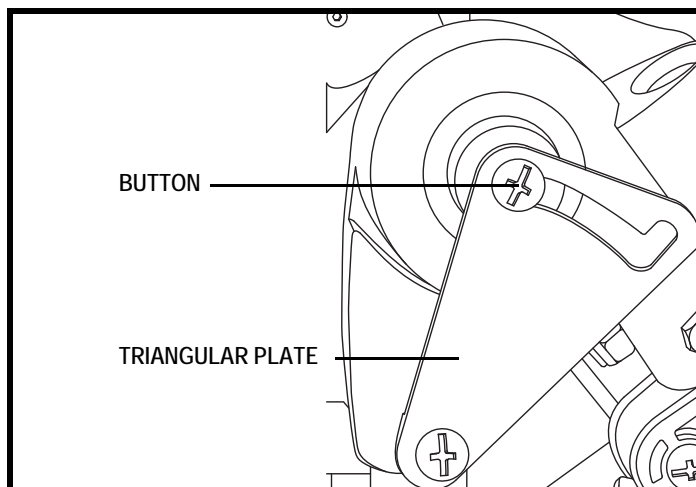

Figure 41. Triangular Plate
2. Slide the triangular plate (near the child's knee) toward the front of the wheelchair to depress the button on the black ratchet. **See figure 41.**